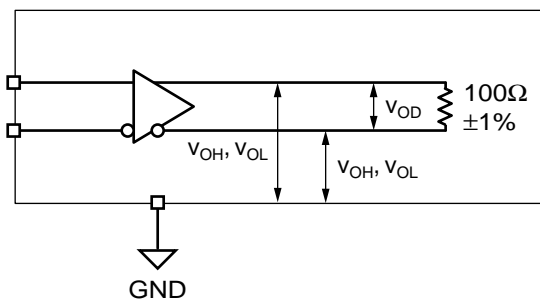
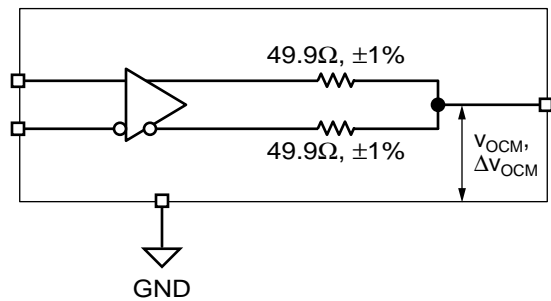

Figure 3. LVDS Differential Measurement
Figure 4. LVDS Common Mode Measurement
**Note 8.** Measured as per Figure 3,  $100\Omega$  across Q and /Q outputs.**Note 9.** Measured as per Figure 4.